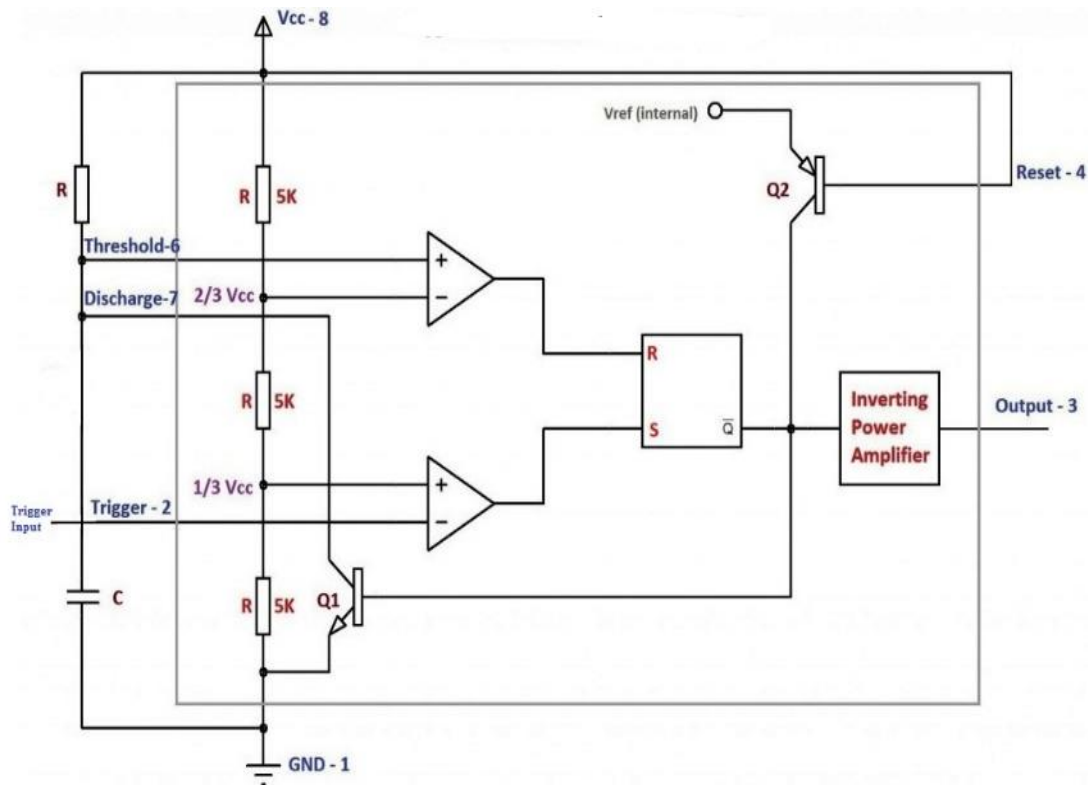

Fig 4: Internal diagram of IC 555
- The Internal Block Diagram of IC555 shown in figure 4